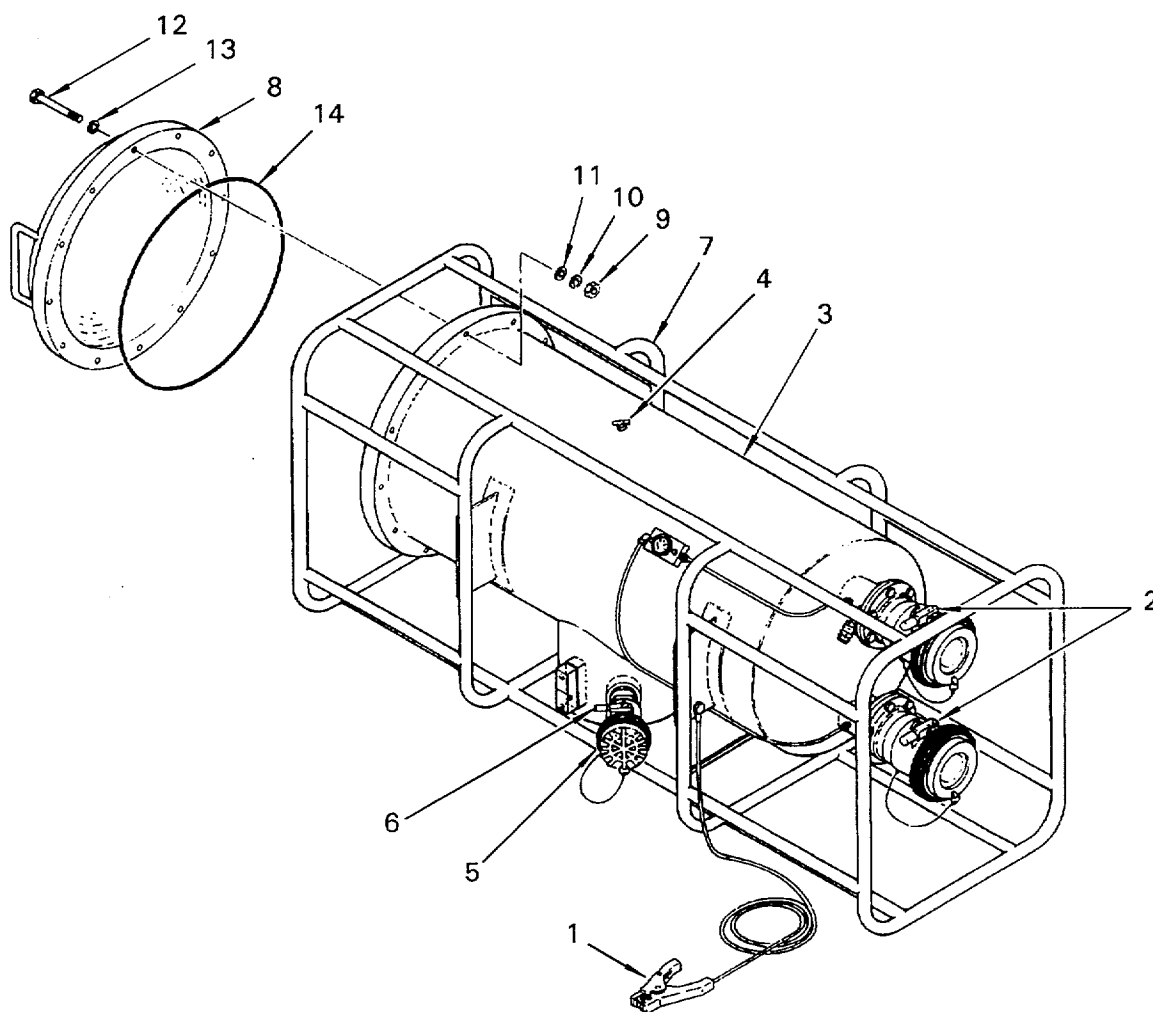

Figure 4-1. Filter Vessel Cover O-Ring Replacement
a. Removal. (Figure 4-1)**WARNING**
(1) Connect liquid fuel filter-separator ground cable (1) to a grounding rod.
- (2) Close inlet and outlet valves (2) on filter vessel (3) and open manual vent valve (4).
- (3) Place a container under the defueling coupling (5), open the defueling coupling valve (6) and drain the filter vessel (3).
- (4) Close the defueling coupling valve (6).
- (5) Raise the liquid fuel filter-separator (7) to a vertical position with the filter vessel cover (8) facing up.
b. Installation. (Figure 4-1)
- (1) Clean O-ring groove and filter vessel (3) seating surface.